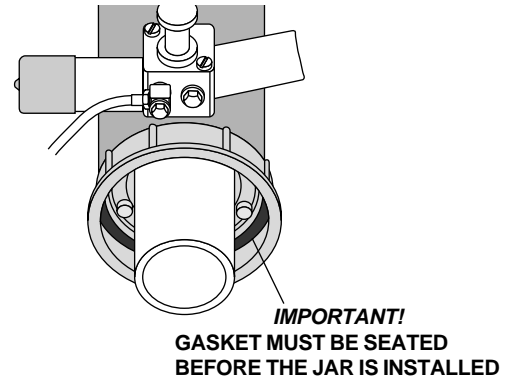

FIGURE 36
4. Screw the solids separator jar onto the bottom of the vacuum drain assembly. **Be sure the gasket is properly seated** (see *Figure 36*).